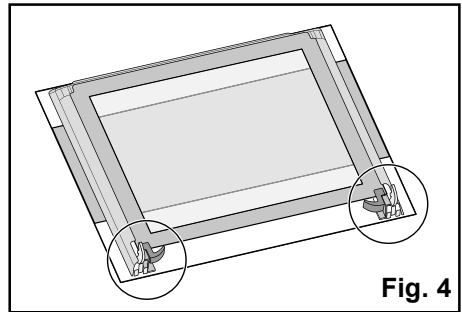

Fig. 4
- 6) place the door on a stable surface (Fig. 4) protected by a soft cloth to prevent the handle surface from being damaged;